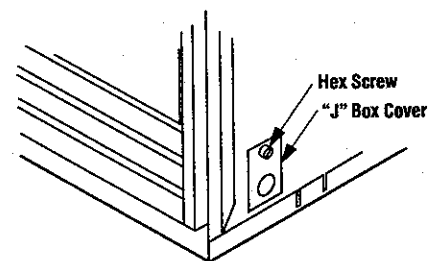
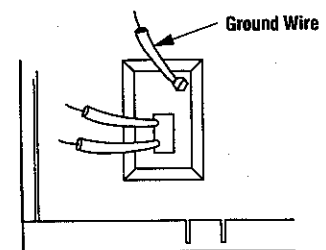

Figure 12
Figure 13
Step 4. Remove the junction box cover (Figures 12 and 13) by removing the hex head screw. The junction box cover has a 7/8" knock-out hole for a conduit bushing. Route a 3-wire 120V 60Hz power supply line through a wall switch (not supplied) to the appliance junction box and ground (Figure 13).
IMPORTANT: GROUND LEAD MUST BE CONNECTED TO THE GROUND WIRE LOCATED IN THE JUNCTION BOX (FIGURE 13). FAILURE TO DO SO WILL PREVENT THE APPLIANCE FROM OPERATING.